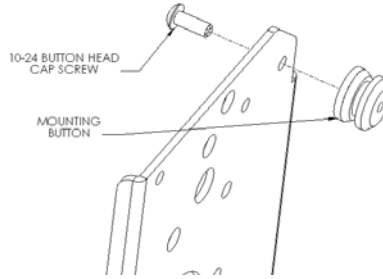
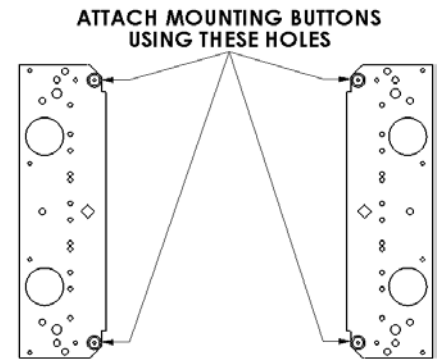

Figure 2
Figure 3
1. Using a 10-24 button head cap screw inserted from backside of bracket through holes, secure mounting button with chamfered hole of mounting button (larger surface) facing bracket, to bracket (four places) (see Figure 2 and Figure 3).